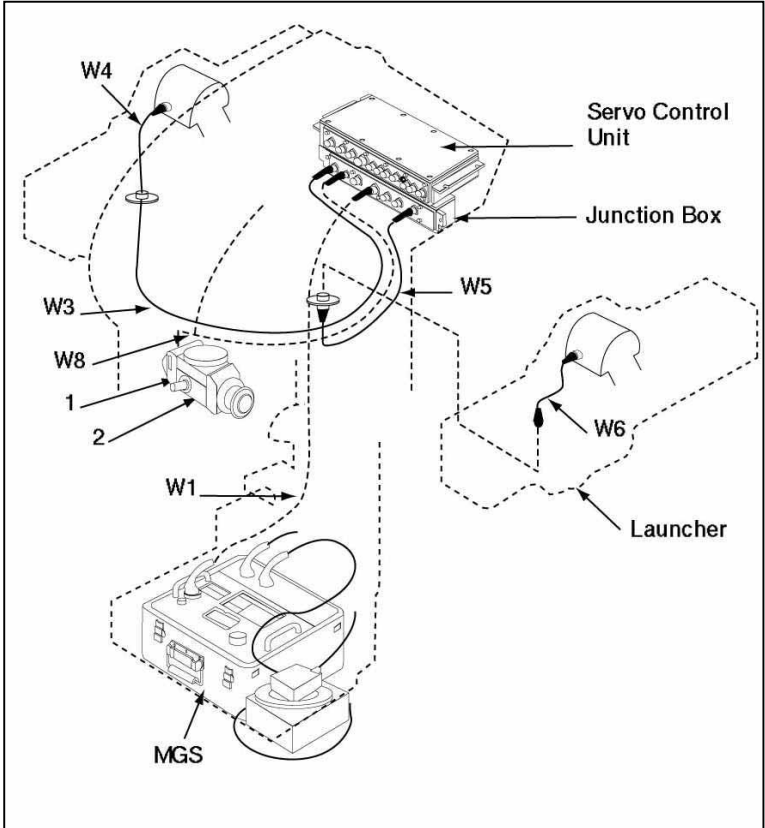

Figure 4-8-1: Launching Signal
10. Once the trigger (see Figure 4-8-1) has been depressed, and an electrical signal is sent from the hand controller through a cable into the junction box; then from the junction box the signal travels via cable to the missile guidance set (MGS) J1 connector. The MGS then sends the launching signal back to the junction box via cable. From the junction box the signal travels to the respective launcher left or right, whichever is armed.